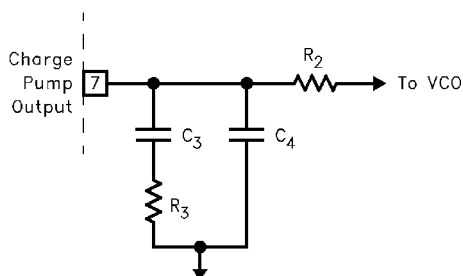

FIGURE 12. TYPICAL LOOP FILTER
6. Notice R_2 has little effect on the loop filter design. R_2 should be large, around 100k, and can be adjusted to compensate for any static phase error T_0 at lock, but if made too large, will slow loop response. If R_2 is made smaller, T_0 (see "Timing Diagrams" on page 5) increases, and if R_2 increases, T_0 decreases. For LDET to be low at lock, $|T_0| < 50\text{ns}$. C_4 is used mainly to attenuate high frequency noise from the charge pump. The effect these components have on-time to lock is illustrated in Figure 12.